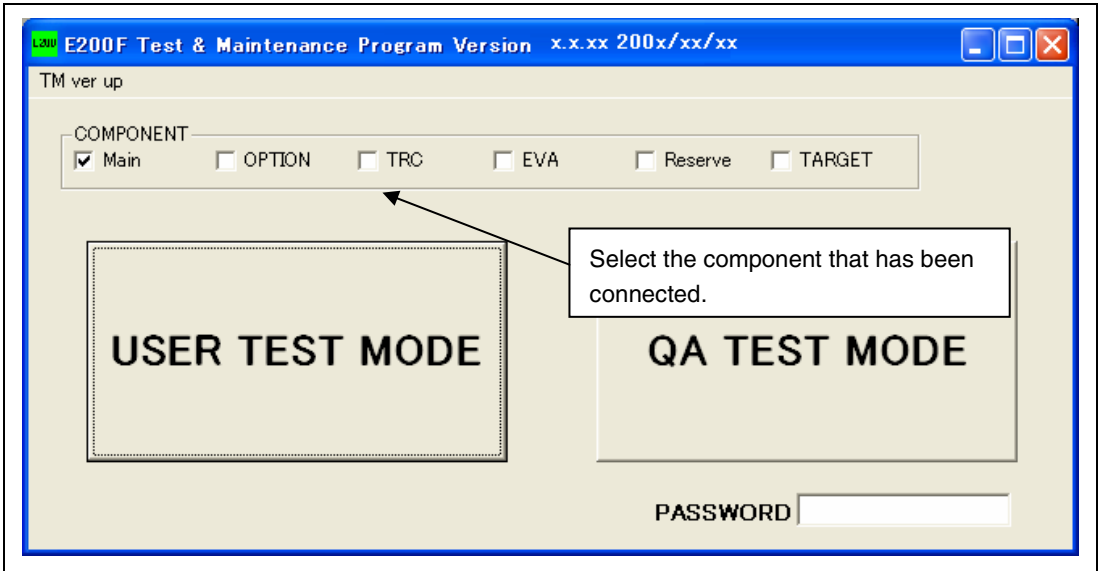

Figure 3.6 Initial Screen of the E200F System Operation Test
4. The diagnostic program of the emulator is started and the initial screen (figure 3.6) is displayed.